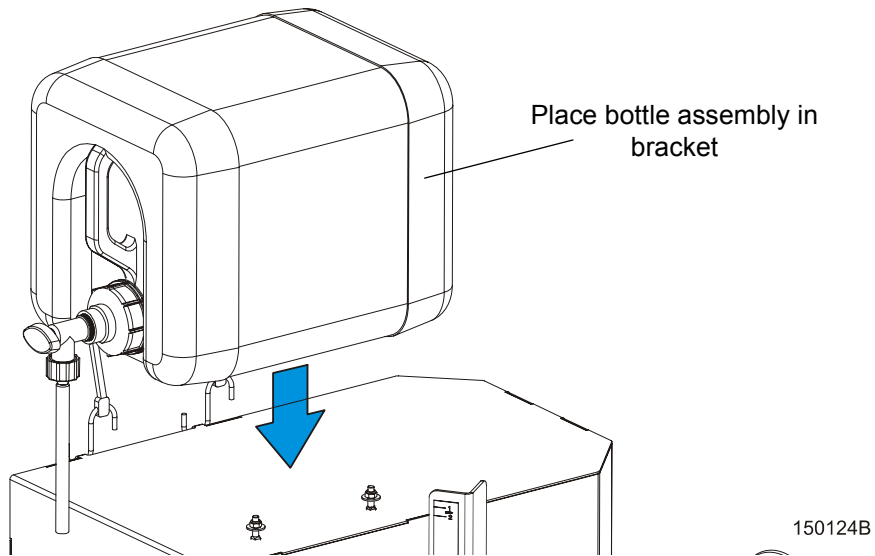

FIG. 3-5
**See Figure 3-5.** Install the water bottle bracket at the top of the saw head mast (if the bracket was